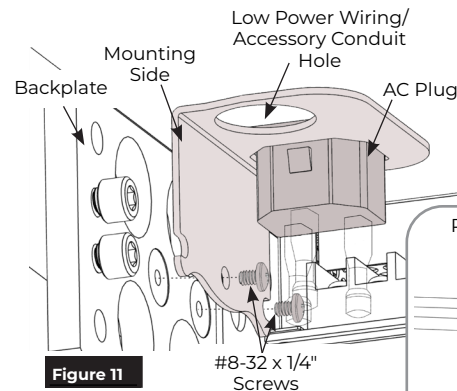
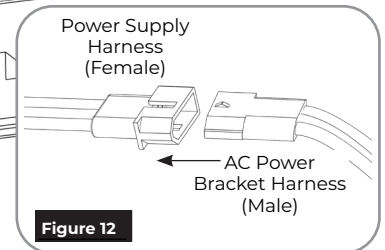

Figure 11
Figure 12
- Place the AC Plug conduit bracket against the backplate with the AC plug and conduit hole facing up toward the frame header. The mounting side of the bracket will face the backplate. (Figure 11)
- Secure the bracket to the backplate using two (2) #8-32 x 1/4" machine screws.
- Plug the bracket's wiring harness into the pre-wired AC harness of the power supply. (Figure 12)